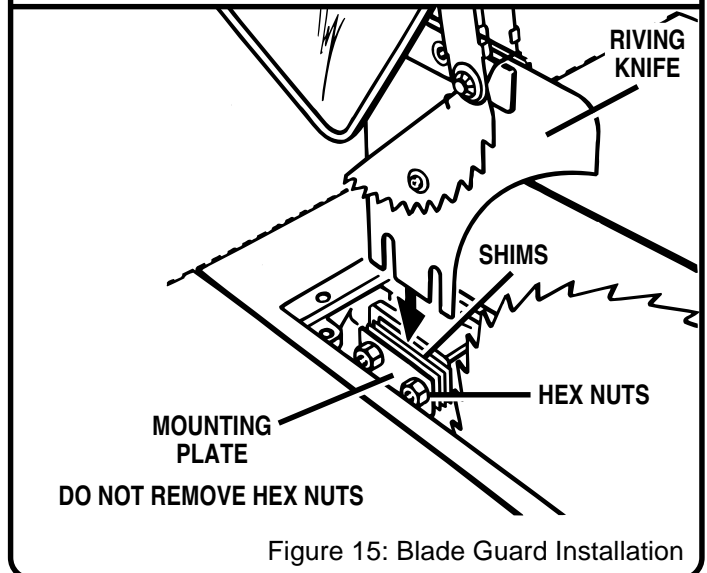

Figure 15: Blade Guard Installation
4. Using the small hex wrench, install the blade guard assembly by loosening the two attachment hex nuts enough to slide the riving knife down between the shims. **Do not remove the hex nuts.** See Figure 15. Partially retighten the two attachment nuts. Check the blade and riving knife alignment. Make sure riving knife clears blade by 1/8 in. See Figure 27.